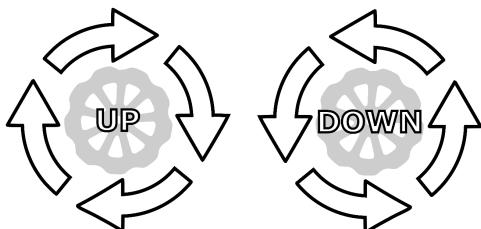

Figure 1.13 – Adjusting the bed position
12. Using the leveling wheel closest to the point on the bed, turn the wheel to either lower or raise the bed so that the paper can move freely under the print head with a slight tug. The paper should not rip, nor move freely without a little bit of resistance (*Figure 1.12*). Use the graphic in *Figure 1.13* to determine how to move the bed either up or down: